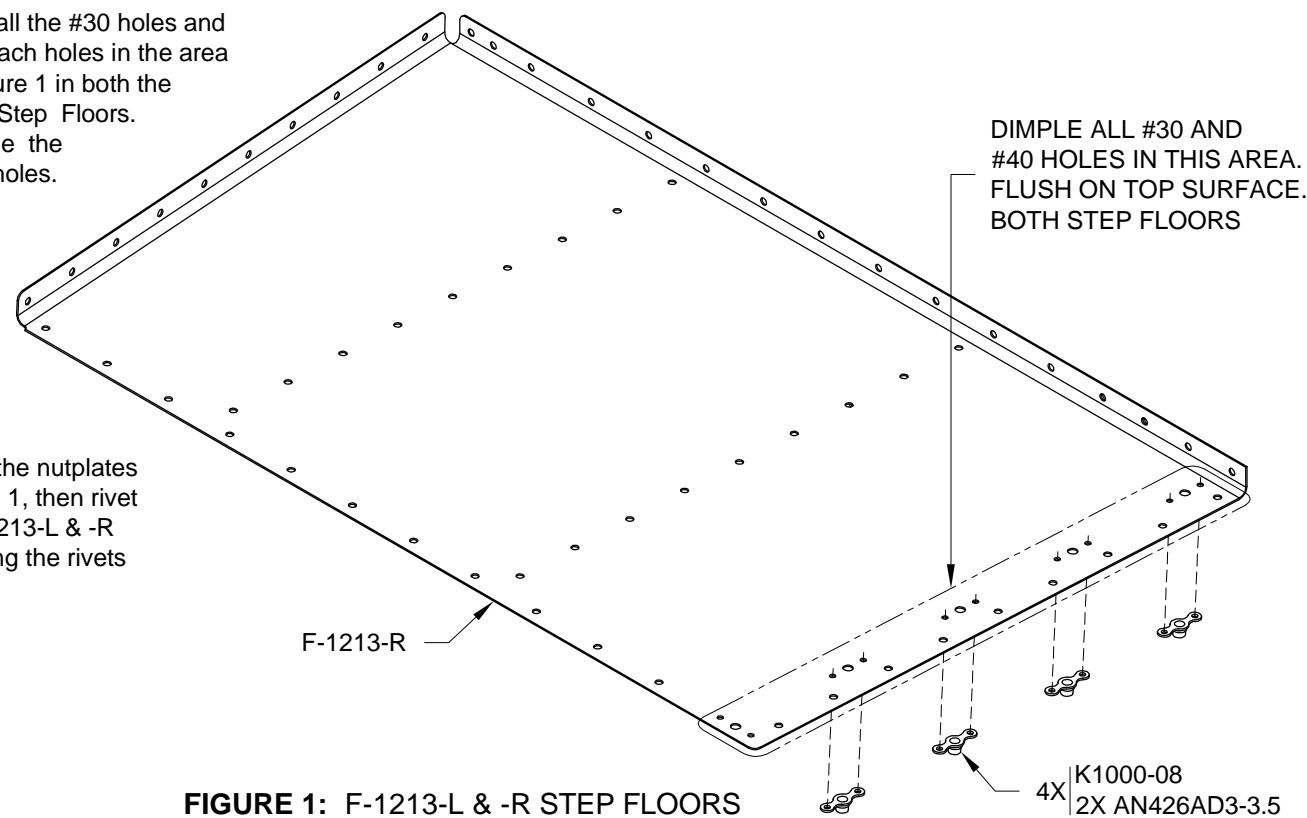

FIGURE 1: F-1213-L & -R STEP FLOORS
Step 1: Dimple all the #30 holes and #40 nutplate attach holes in the area indicated in Figure 1 in both the F-1213-L & -R Step Floors. DO NOT dimple the nutplate screw holes.
Step 2: Dimple the nutplates shown in Figure 1, then rivet them to the F-1213-L & -R Seat Floors using the rivets called out.